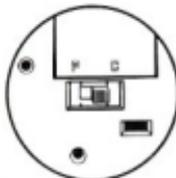

Fig. 1
- PBX/CO Switch: (For UNITY I and II only)** This two-position base-located switch (Fig. 1) should be set to the position which corresponds to the specific system in use; i.e., P for PBX or C for CO. For optimum performance of your telephone set, check to ensure the switch position and the application match.